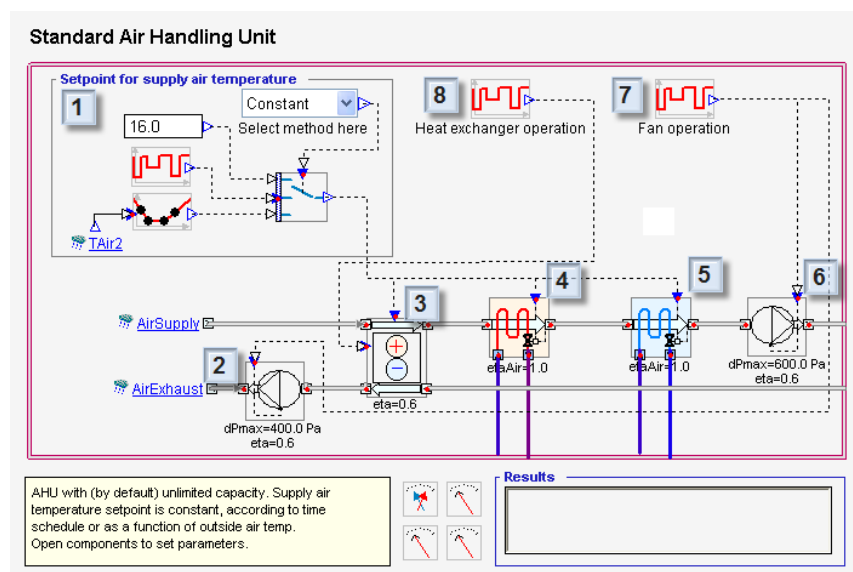

Figure 3.2. Default air handling unit
In the default configuration, the air handling system consists of the following components (Figure 3.2): supply air temperature setpoint controller (1), exhaust fan (2), heat exchanger (3), heating coil (4), cooling coil (5), supply fan (6), schedule (7) for operation of both fans and a schedule for the operation of the heat exchanger (8). The unit provides temperature-controlled air at a given pressure. Some key parameters of individual components are presented in the form; open them to edit.